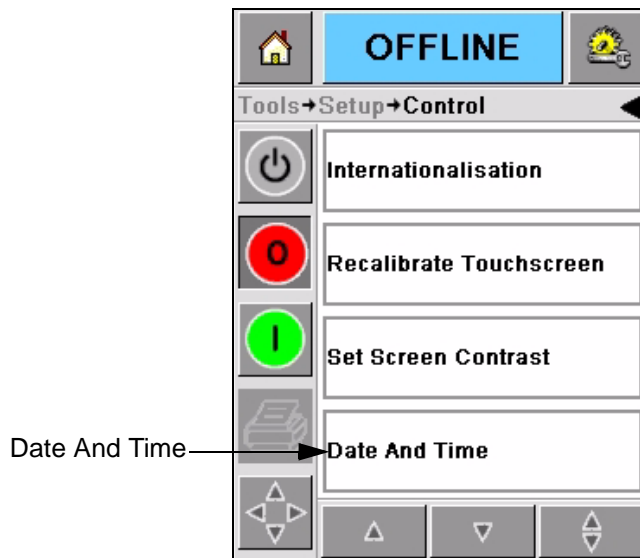

Figure 5-23: Control Screen
- 1 Navigate to *Tools > Setup > Control* from the *Home Page*. The *Control Screen* appears (Figure 5-23).
- 2 Select the *Date and Time* from the list displayed (Figure 5-23).